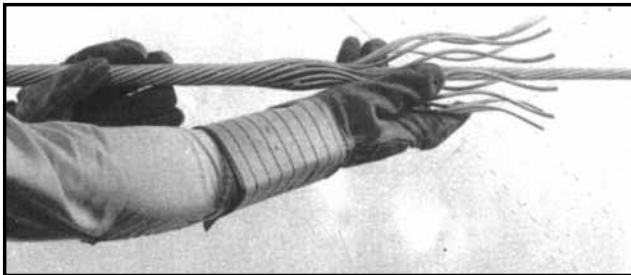

Figure 4
2.04 To complete application, use both hands to wrap reinforcing rods simultaneously into position. Do one end bundle first, then the other end (Figure 4).